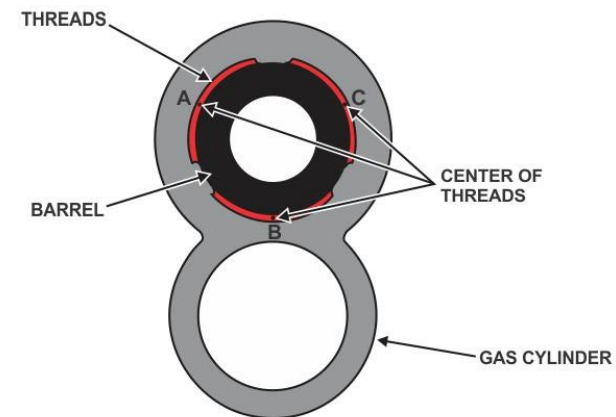

Figure 81: 32 inch Thread Profile Gauge
- b. If the threads are visually acceptable, the profile of the threads should be inspected. For this inspection a 32 thread per inch profile gauge will be needed (Figure 81).